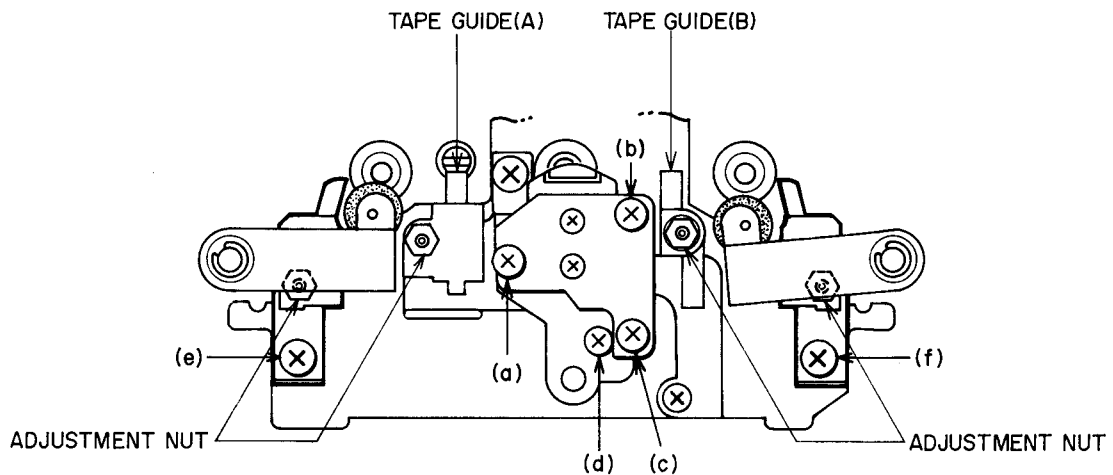
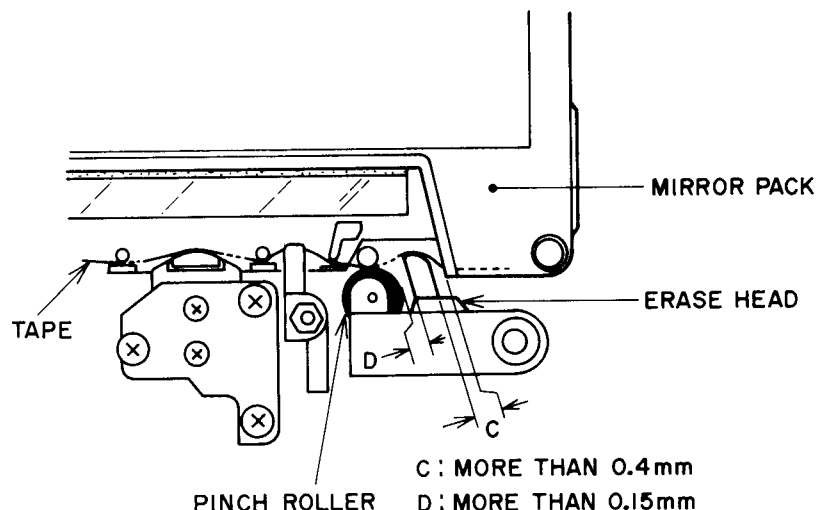

Fig. 22
Fig. 24
1. ERASE HEAD HEIGHT ADJUSTMENT (Refer to Figs. 22 to 25)
2. ERASE HEAD INSTALLATION ANGLE ADJUSTMENT (Refer to Figs. 22 and 24)
Please adjust by loosening screws (e) and (f) (Fig. 22) until the gap D between the Erase Head and the Pinch Roller is over 0.15 mm and the gap C between the Erase Head and the Cassette Pack is over 0.4 mm as in Fig. 24.
(Refer to Figs. 22, 23, 25)
ADJUSTMENT (Refer to Figs. 22, 23)
ADJUSTMENT (Refer to Fig. 22)